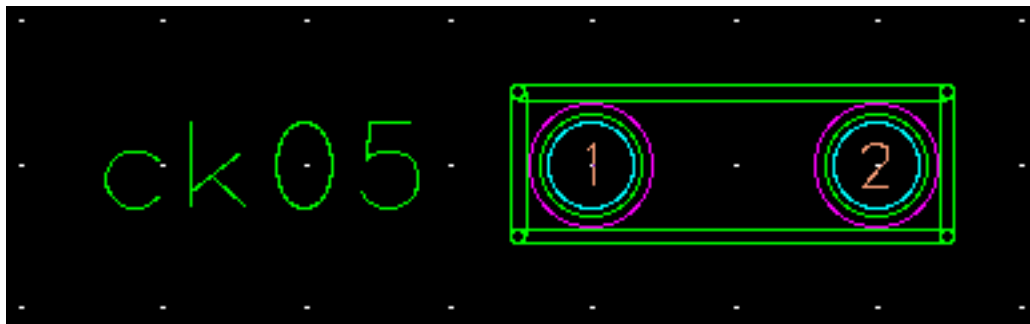

Figure 3-20. The Reference Designator Added
10. Add the reference designator using the same procedure you used for the resistor's reference designator. Place the reference designator as shown in Figure 3-20.